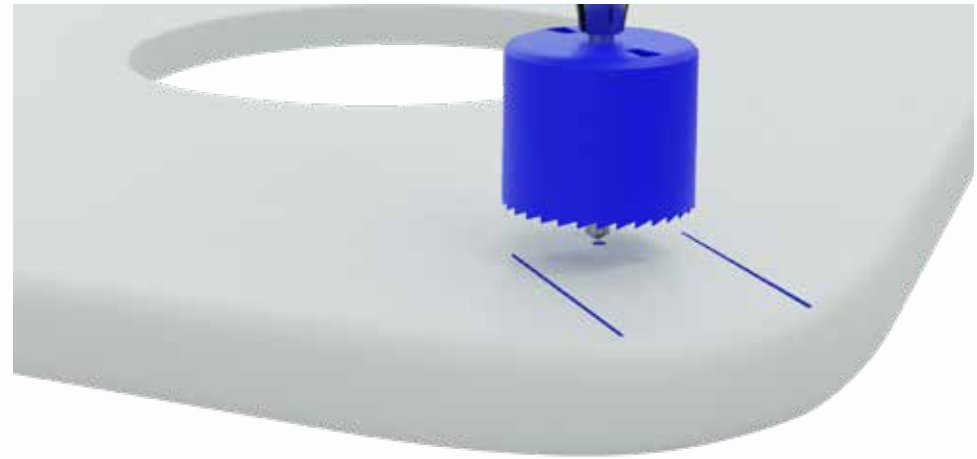

figure 27
**Step 3:** Remove the template. With a 1-1/4" hole saw, drill a hole in the location marked as shown (figure 27).